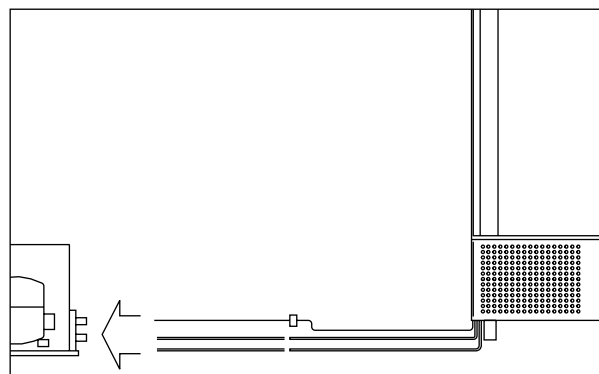

Fig.7
14.2 REM Blast chillers (Fig. 7)